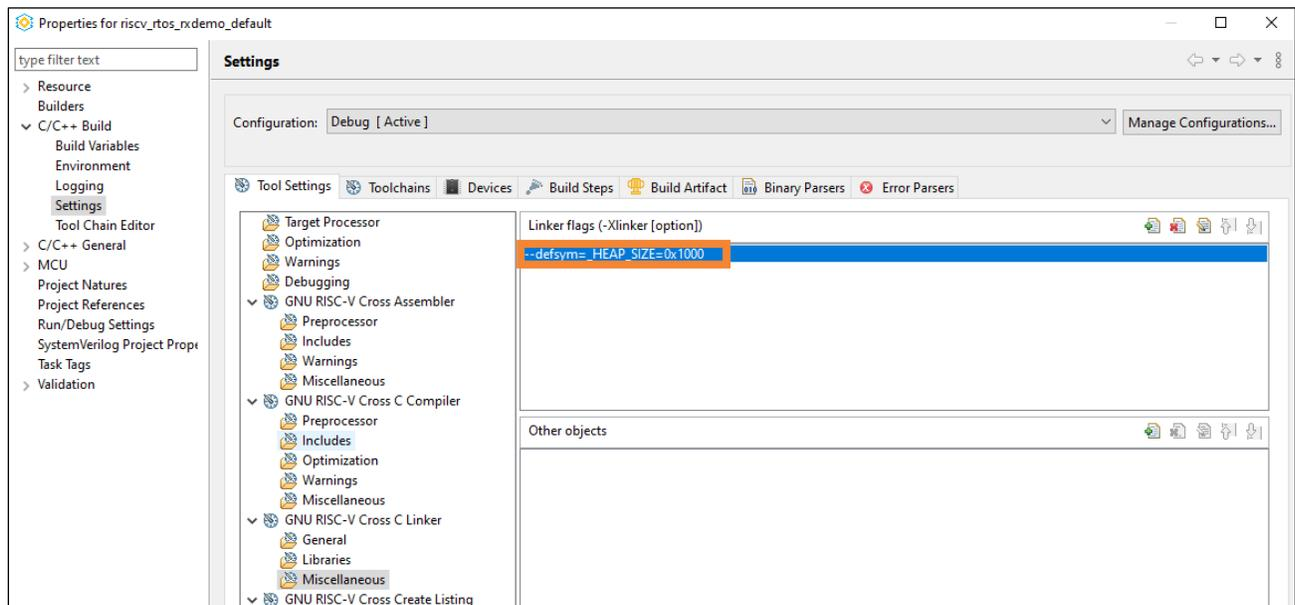

Figure 6.13. --defsym=\_HEAP\_SIZE=0x1000 Linker Flag
6. Select **GNU RISC-V Cross C Linker > Miscellaneous**. Add the linker flag, --defsym=\_HEAP\_SIZE=0x1000 (Figure 6.13).